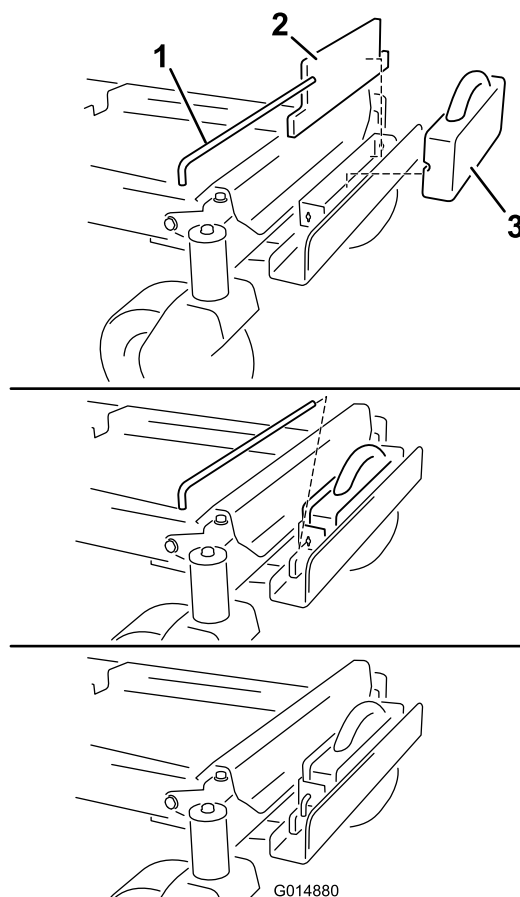

Figure 7
7. Install a flat weight to the holding bracket and move it rearward, flush with the bracket (Figure 7).
8. Install a suitcase weight in front of the flat weight (Figure 7). The groove in the suitcase weight should be facing rearward.
9. Secure the weights to the bracket with a keyed cross bar (Figure 7). Install the bar and rotate it 90 degrees downward to lock it in place.